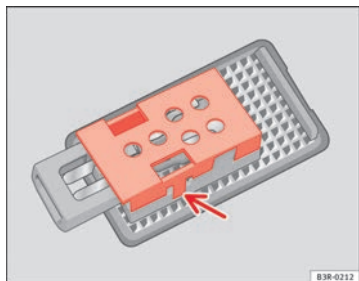

Fig. 221 Luggage compartment light
- Remove the protective cover and remove the bulb from the housing ⇒ fig. 221. ■